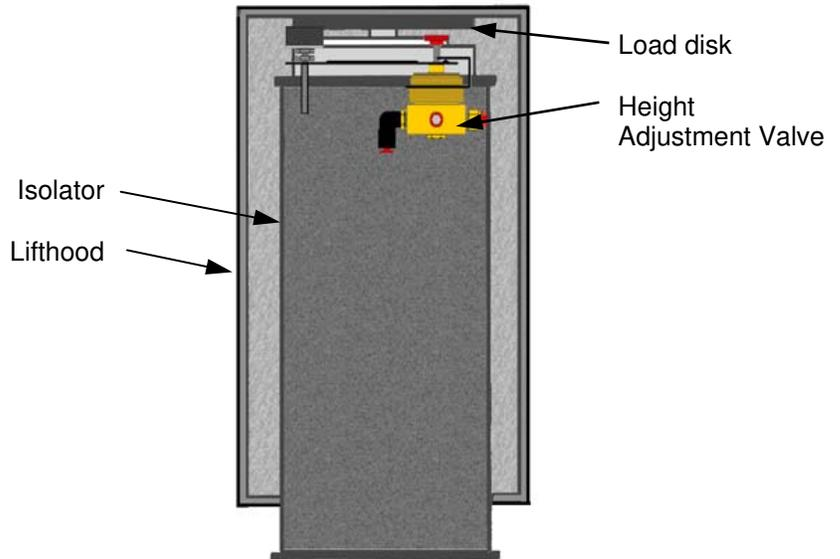

Figure 3 Isolator place under lifthood
Step 5 Place isolator posts under the lifthoods with *height control valve* facing away from platform and ensuring each post is centered under it's corresponding lifthood with adequate clearance on each side. Reference figures 3 and 4.